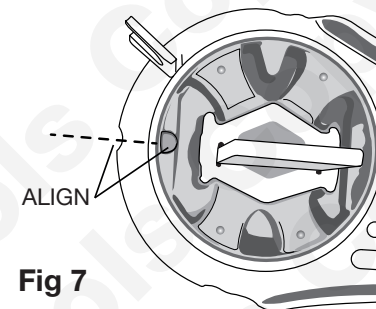

Fig 7
*Note: Align the bush as shown in **Fig 7**.*